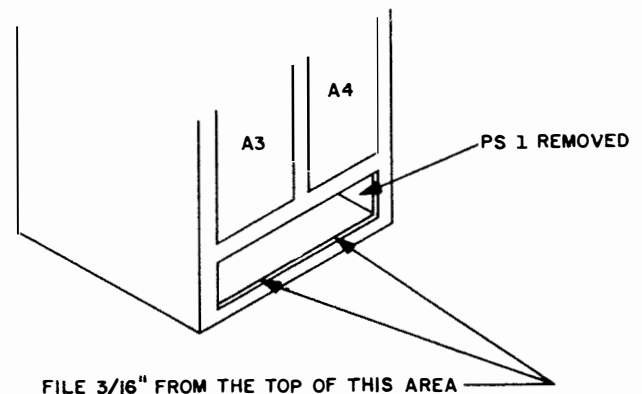

Figure 1. Modification to Lower Front Panel of Digital Data Converter.
File 3/16 inch of metal off the entire top edge of the lower front panel as shown in figure 1. This will eliminate the cause of metal particles and may prevent future power supply casualties. (801)